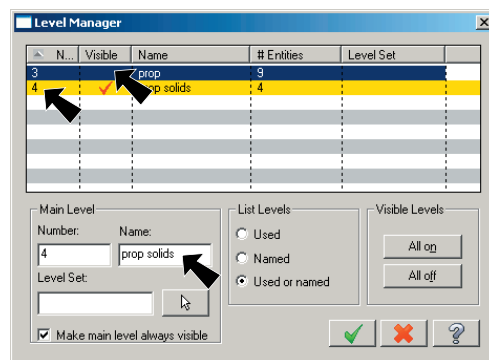

Fig. 30
Step 9. Click the **4** in the Number column to make **Level 4 active**, **Fig. 30**.
Step 10. **Uncheck Level 3** in the Visible column to hide the geometry, **Fig. 30**.
Step 11. Key-in **prop solids** for level 4 Name and click OK, **Fig. 30**.